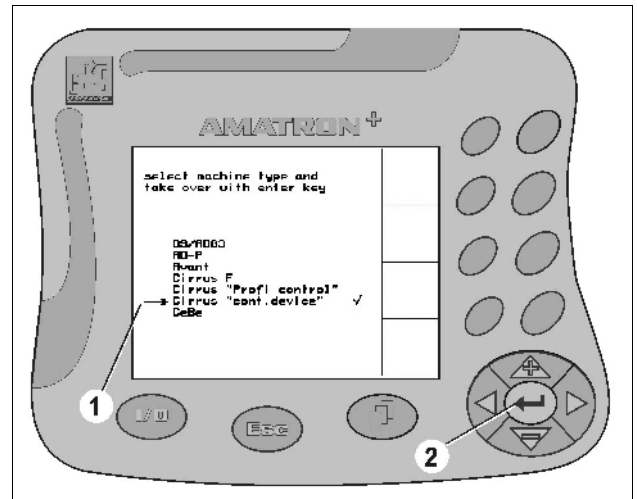

Fig. 16
- Position the cursor (Fig. 16/1) with  and .
-  Accept the entry (Fig. 16/2).
- Press function key (Fig. 16/2) once
→ Function **On** (Fig. 16/1).